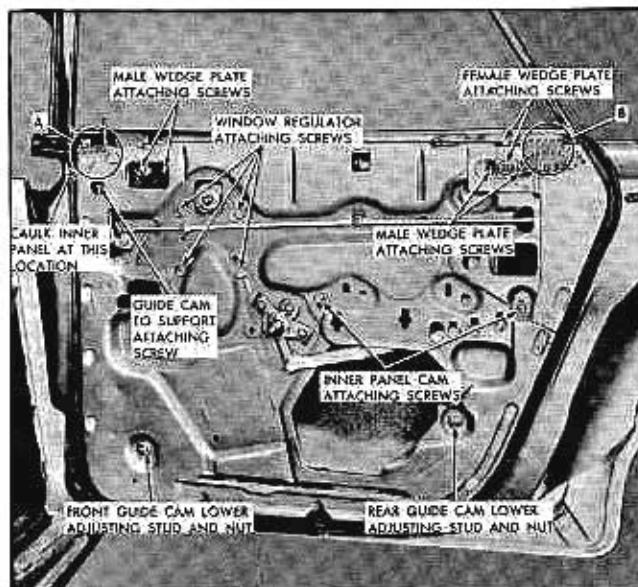

Fig. 2-43 Rear Door—39 Styles
2. Check hinge pillar side of door for proper spacing between inner and outer panels. If spacing is excessive, caulk inner panel (outboard) slightly at point indicated (Fig. 2-43).